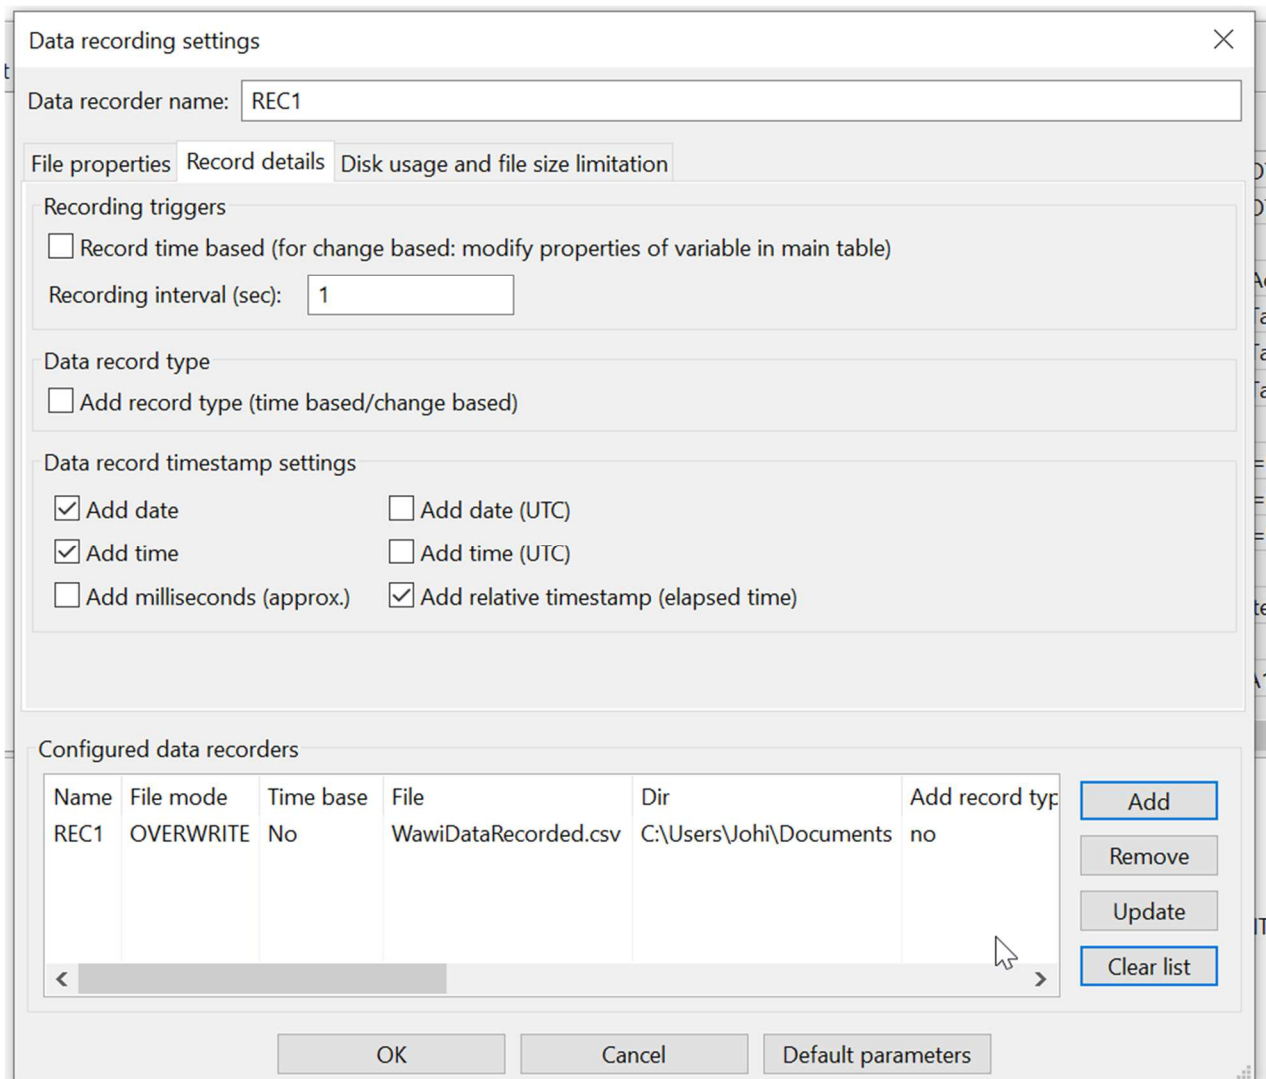

Fig. 3.12. Creating a new data recorder, disable time interval based recording.
- ✓ Select the tab “Record details” (fig. 3.12.).